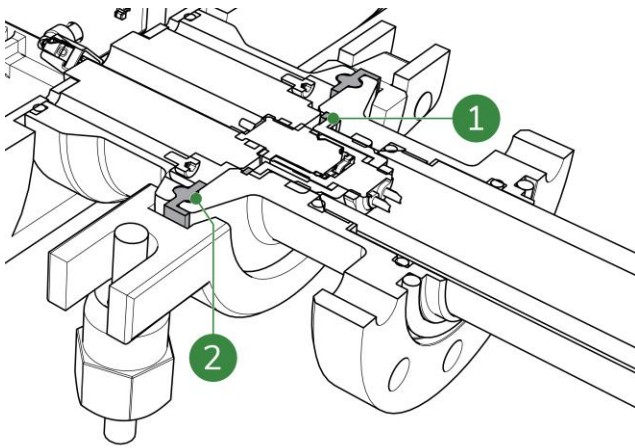

Figure 8-8: Sensor sealings
9. If the SDM ECO needs to be re-assembled, make sure that the 2 sealings are present in the transmitter and sensor, see Figure 8-8, pos. 1 and 2.